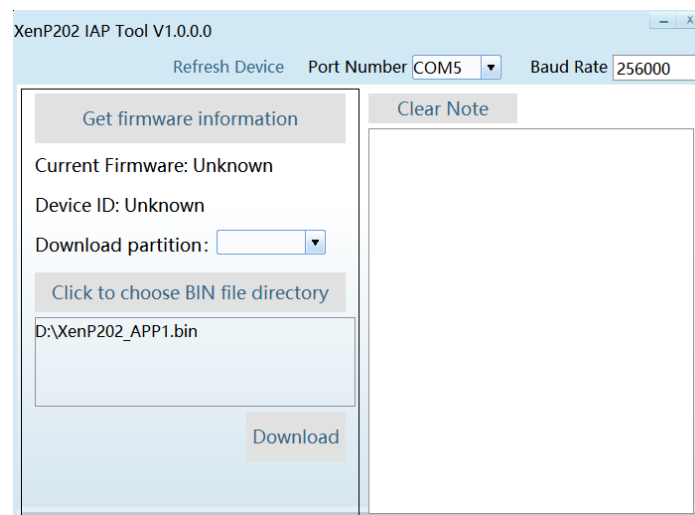

Figure 4-15 XenP202 IAP Tool
Step 3: On the GUI of the IAP Tool, click the **Refresh Device** button, choose the COM number of the XenP202TT module, ensure the baud rate is 256000, as shown in Figure 4-15;